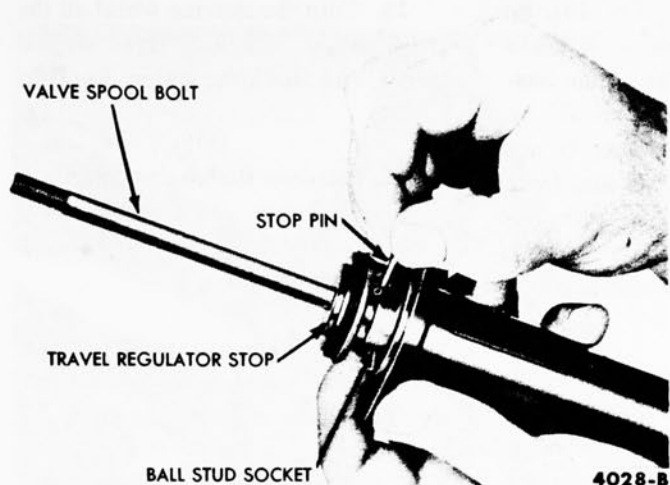

FIG. 14—Stop Pin Installation
4. Loosen the stop just enough to align the nearest hole in the stop with the slot in the ball stud socket, and install the stop pin in the ball stud socket, travel regulator stop, and valve spool bolt (Fig. 14).